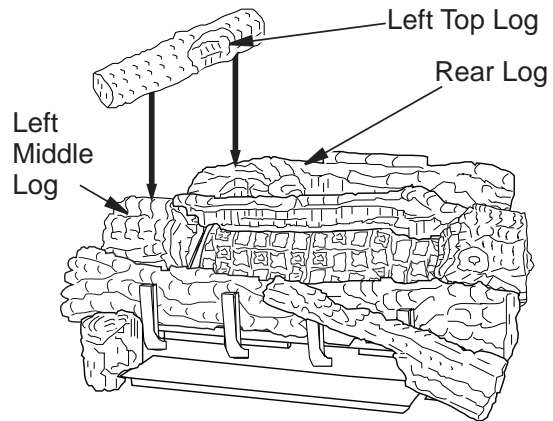

Figure 36 - Installing Left Top Log
- Place the left top log onto the rear log and the left middle log. Make sure to place the projection on the bottom of the left top log into the recessed areas on the rear and left middle logs (see **Figure 36**).